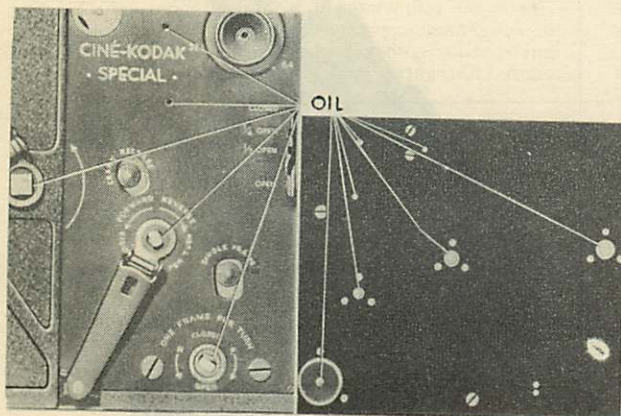

Figure 17—Points to Oil on the Ciné-Kodak Special
(1) Use Oil; Low Temperature, Lubricating, Gear Specification No. AN-0-3.
(2) Oil the camera mechanism every six months or after exposing 10,000 feet of film, whichever comes first.
(3) Place the camera on its side with the etched control plate up. Apply one drop of oil to the points indicated in figure 17. After applying the oil, run the camera several seconds at speed "16" to spread the oil over the bearing surfaces. Wipe off all excess oil.
(4) Remove the film chamber and lay the mechanism half of the camera, etched control plate down, on a support. Do not lay the camera directly on the table or the shutter operating lever may be damaged. Apply one drop of oil to the points indicated in figure 17. Press the magazine locking lever (1, figure 11) and operate the camera intermittently. Wipe off all excess oil.